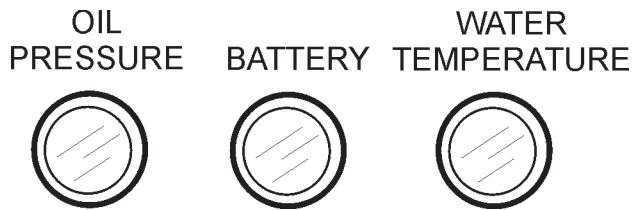

Figure 22. Control Box Status Lamps
- Verify that the **oil pressure**, **battery** and **water temperature** status lamps (Figure 22) are all **OFF**. If any of these lamps are **ON**, stop the engine and correct the problem.